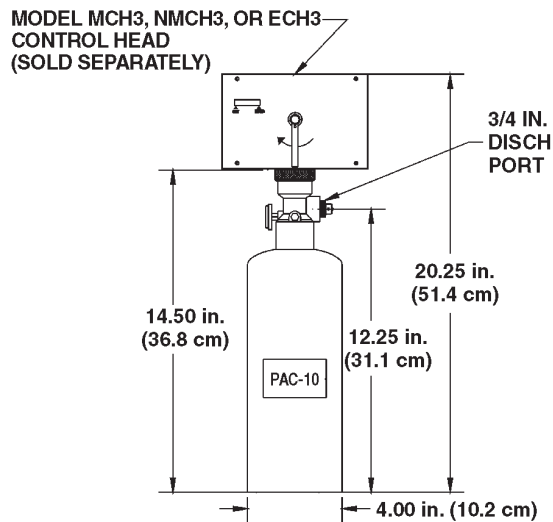

FIGURE 10
The Model PAC-10 is a pneumatic actuating tank that can actuate a maximum of ten (10) agent tanks simultaneously. The Model PAC-10 includes a DOT 4BA350 tank pressurized with dry nitrogen to 350 psi (24.1 bar) @ 70 °F (21.1 °C), a brass valve with pressure gauge, and a wall mounting bracket. A Model MCH3, NMCH3 or ECH3 control head must be purchased separately and connected to the PAC-10 to open the valve. See Figure 10.